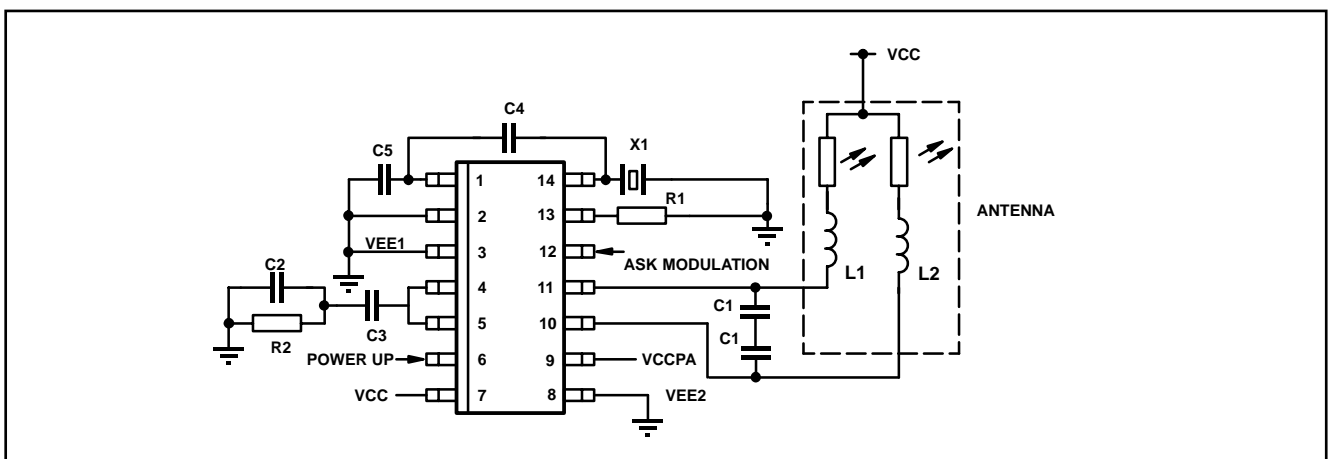

Figure 6 - Application diagram
3. Regulatory issues demand that transmission does not take place until the PLL has acquired lock and the VCO is operating at its final output frequency. This requirement demands that pin TXEN is set high at least Tx_e ms prior to the transmission of any data. This value is dependent on the PLL loop bandwidth and hence on the value of the external loop filter component values. The specification value above is for the loop filter components shown in the applications diagram (Fig. 6)
A single transistor Collpits crystal oscillator provides a reference clock for the PLL. The oscillator is configured for parallel resonant operation in the fundamental mode (typical operating frequency of 3–7MHz). The crystal is connected between pins XTAL2 and V_{EE1} with external components as shown in Fig.6.
The input signal at pin DATA produces amplitude shift key (ASK) modulation of the VCO output. This is achieved by on-off keying of the bias current in the output power amplifier stage. The output of the PA is a balanced output (pin OUT and OUTB) and is current source driven (open collector outputs). The outputs of which should be D.C. referenced to a positive supply voltage (anticipated to be V_{CC} in most applications). The current source outputs can drive a PCB antenna directly (Fig. 6) or if a higher output power is required on limited supply headroom via a simple impedance transforming network.
The IC is capable of directly interfacing to a PCB loop antenna as shown in the applications diagram (Fig. 6).